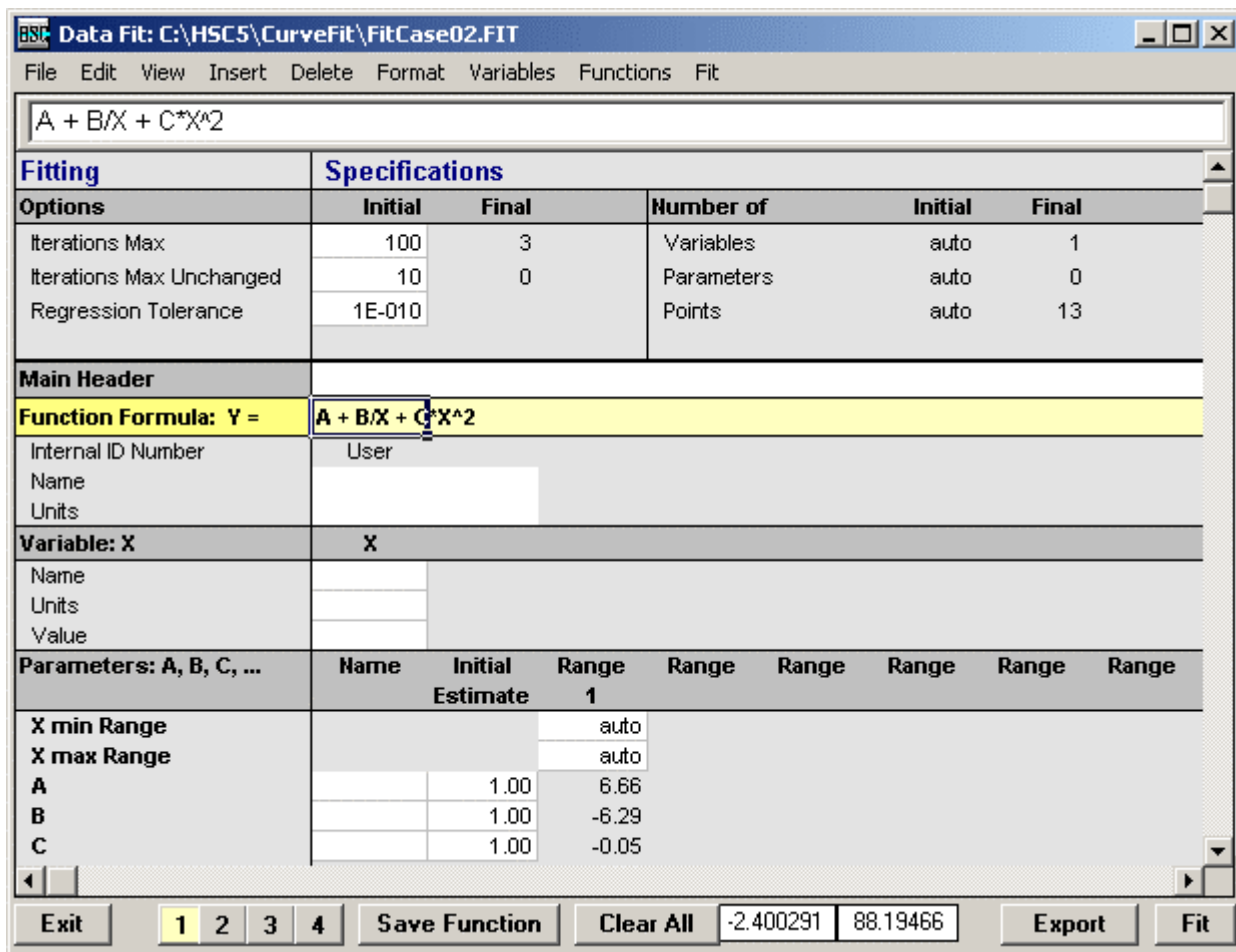

Fig. 3. The user may type a new function after pressing **Clear All**.
Press **Clear All**, Fig. 3.
Specify the number of variables using the “**Variable, ...**” menu selection, Fig. 3. If one variable is selected then the “X” character must be used in the function, but if more variables are selected then the X1, X2, X3, etc. names must be used. You may use either upper or lower case characters (X or x).
4. Function Specification (Yellow background cell in Fig. 3)
Usually no other specification information is needed apart from the function formula because this is created automatically, Fig. 3. However, sometimes the *initial estimate* is needed for the parameters. The default initial estimate is always 1. The user may specify all the information given in cells with a white background to describe the case in more detail. Please do not edit the other cells.
This specification will make it possible to divide the X-number scale into ranges. Parameters will be fitted separately for each range. However, this property is not available in Data Fit version 1.0. It is only included to make the file format compatible with future versions, Fig. 3.
- Edit the initial estimates in Fig. 3.